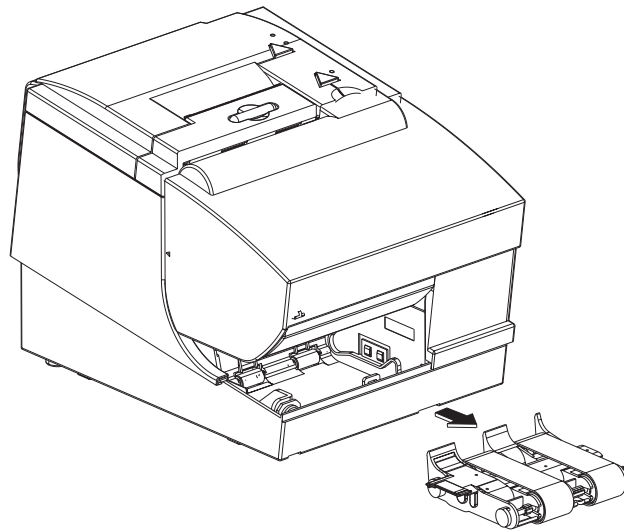

Figure 20. Removing the check flipper cartridge
4. If you cannot remove the document, lift up the tab on the left side of the check flipper cartridge (with a blue label) and remove the check flipper cartridge from the printer (see Figure 20).